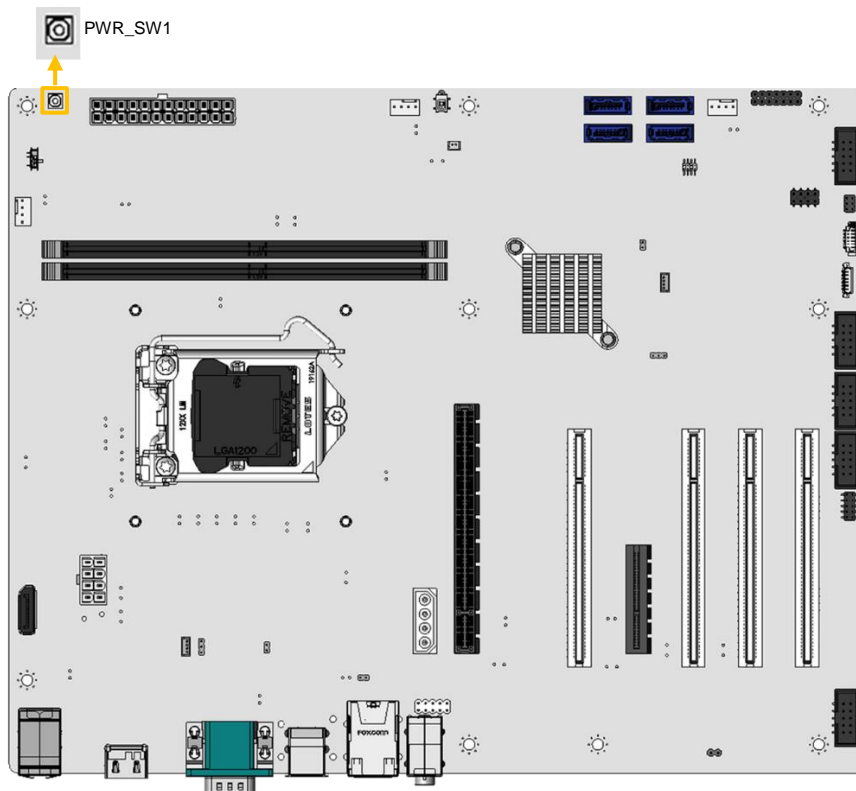

Figure 3-20: Power Button Location
- CN Location:** See Figure 3-20